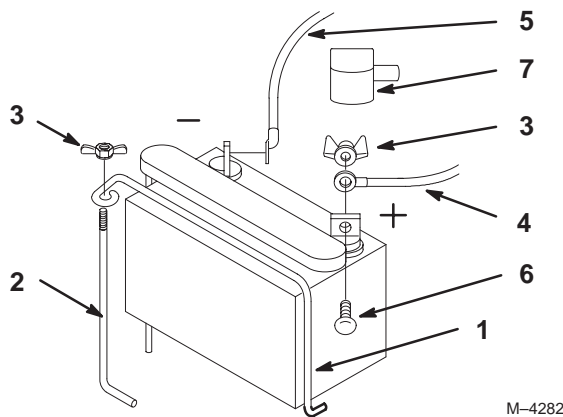

Figure 5
1. Mount the battery on the battery support with the terminal posts toward the gas tank (Fig. 5).
2. Secure the battery with the clamp, support rod, and wing nut (Fig. 5).
3. Slide the red terminal boot onto the red battery cable (Fig. 5).
4. Install the positive battery cable to positive (+) battery terminal and the negative battery cable to the negative (-) battery terminal and secure them with carriage bolts and locknuts (Fig. 5).